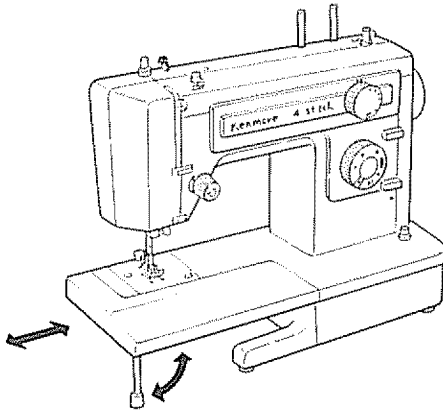

Fig. 1
1. Remove the extension table from the machine by folding the support leg up and pulling table to the left (Fig 1. 2)
2. To replace the table, simply slide it along the free arm to its original position and place supporting leg in down position (Fig. 1)